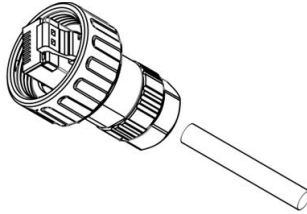

Figure 6-30 Network cable inserted
Step 1: Insert the network cable into the rear nut and rubber seal of the connector, as shown in Figure 6-30.